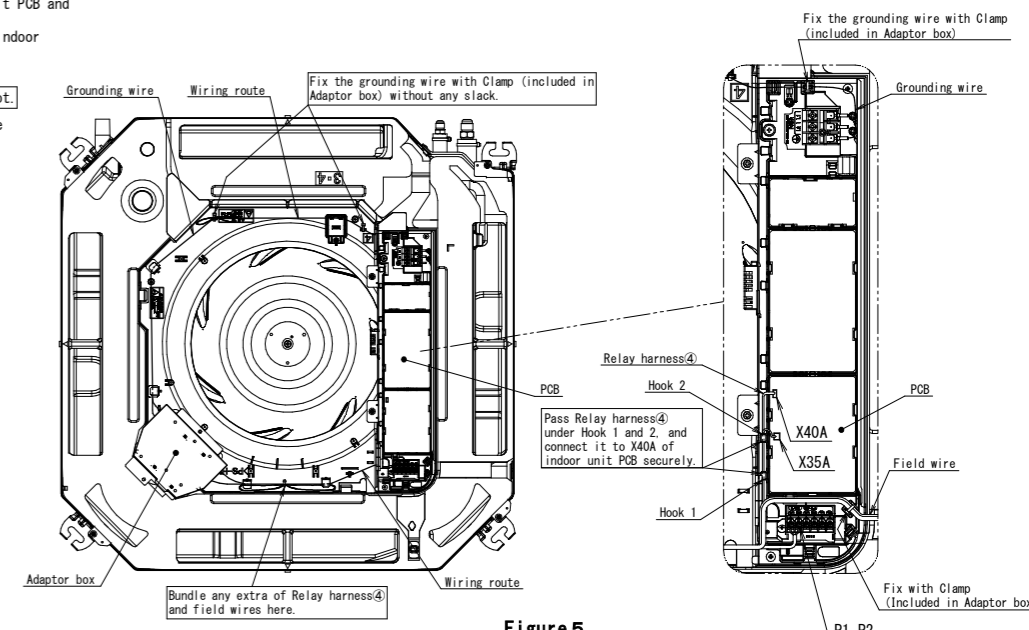

Figure 5
- (1) Connect the wires from the Adaptor box to the indoor unit PCB and the external devices (Ventilation, Alarm). (Figure 5)
- (2) Fix the connected wires with Clamps. (Figure 5)